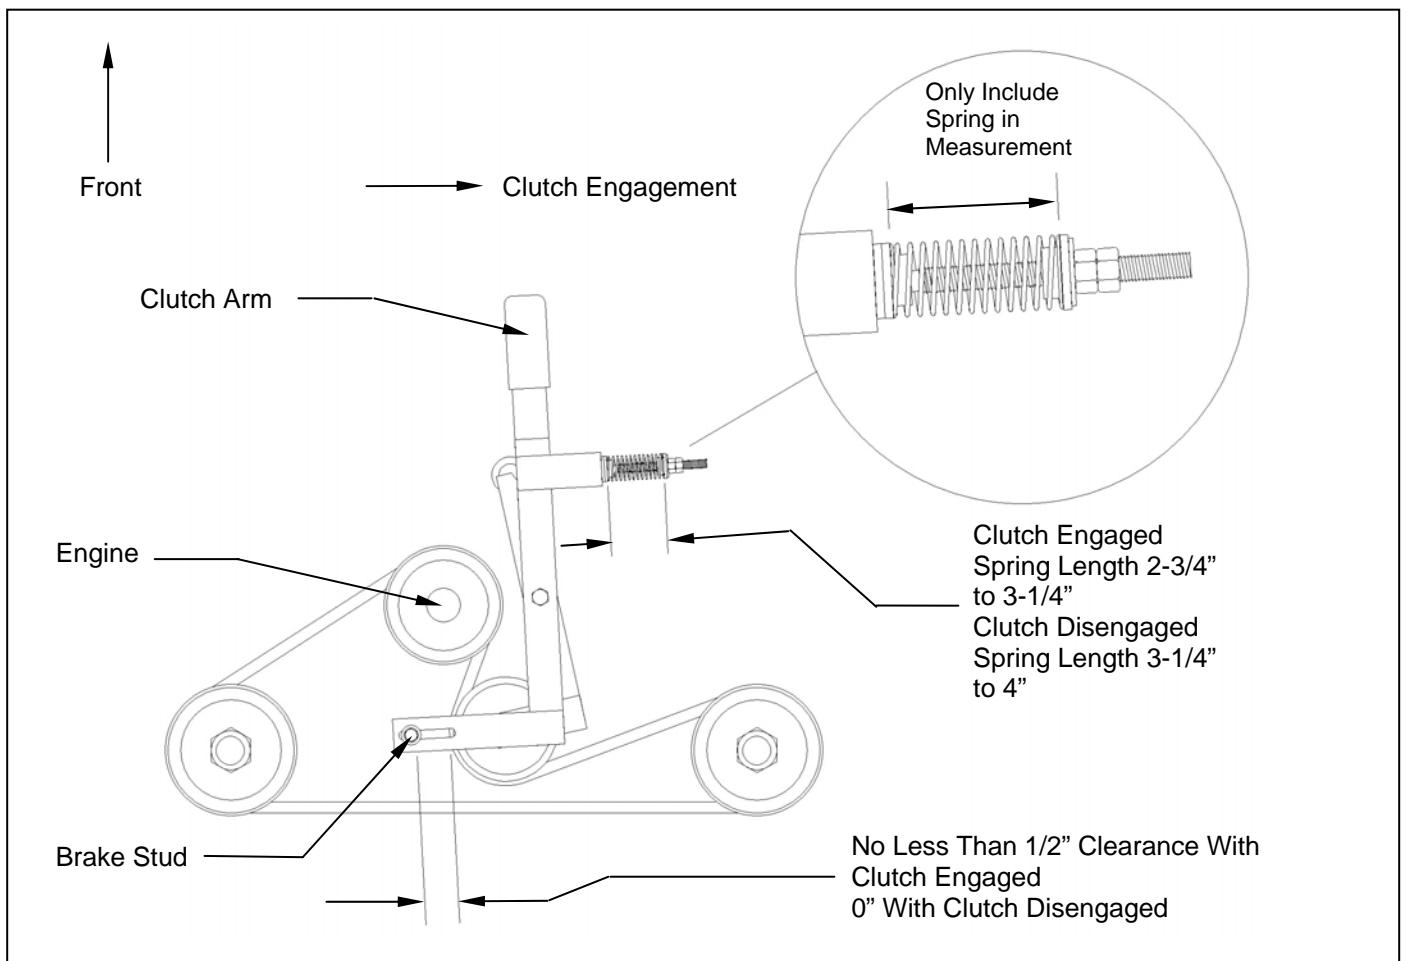

Figure 10: Belt Pattern, Spring Adjustment, and Brake Adjustment
F. DRIVE BELT REMOVAL AND TENSION – Refer to Figure 10
Install the new belt and then adjust the tension as follows: **See Figure 10.** Take special care to make sure that the belt is placed between the brake stud and the idler pulley.